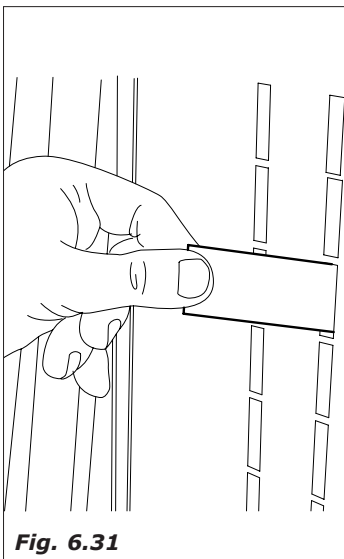

Fig. 6.31
- insert the labels in the order according to the selections used on the vending machine (Fig. 6.31)